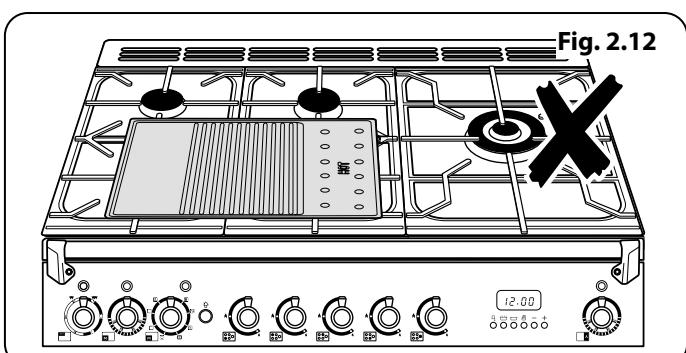

Fig. 2.12
- ⚠ **DO NOT** put it crossways – it will not fit properly and will be unstable (**Fig. 2.12**).